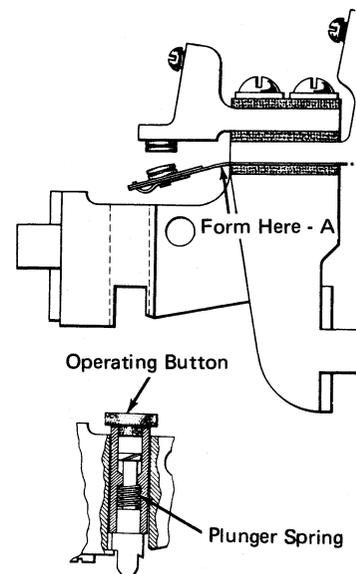

Figure 3-7. Plunger Circuit Breaker—Adjustment
1. The lower strap should be formed at point A to provide proper tension (Figure 3-7). At the factory